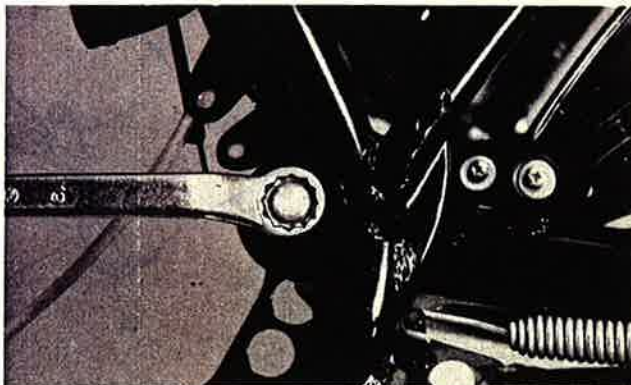

Fig. 5-8-2
1. Remove nut on swing arm pivot bolt and tap out bolt with a long aluminum or brass rod. (Fig. 5-8-2)